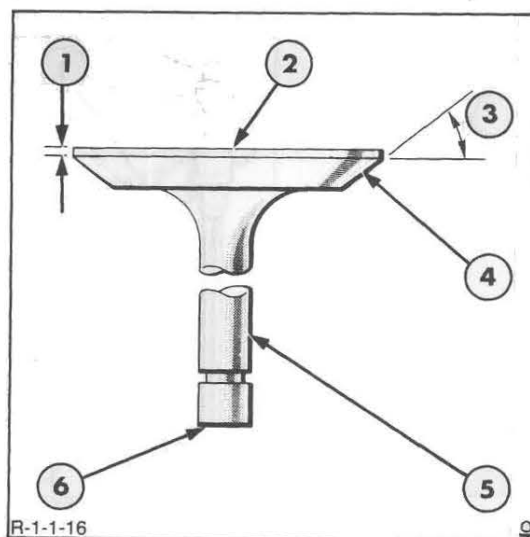

Figure 15
4. Any valve refacing operation should be closely coordinated with the valve seat refacing operation so that the finished angle of the valve is 0,5° less than the angle of the valve seat to provide an interference angle for better seating. Adjust the valve refacing tool to obtain a face angle of 45,5°, Figure 15.